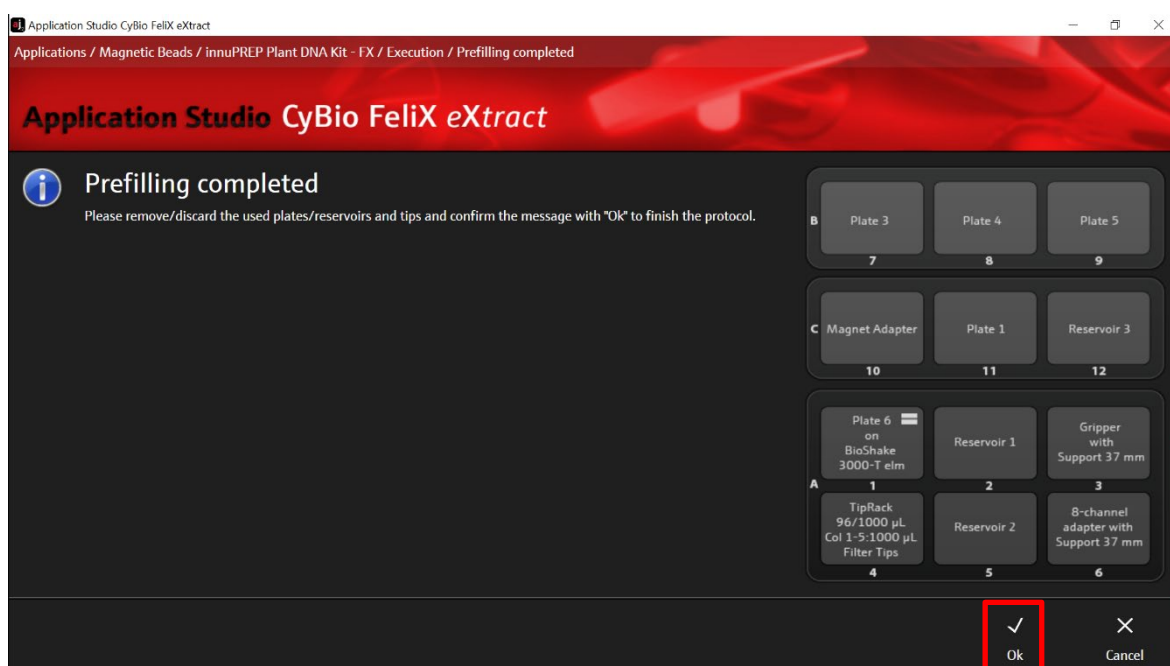

Figure 9: Prefilling completed.
20. The chosen protocol is performed by the device. After the protocol is finished, the message "Prefilling completed" is shown on the screen of the computer. Confirm the message with "Ok" (→ see Figure 9).